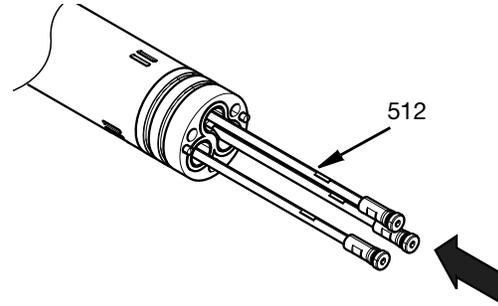

FIG. 32
12. Apply a thin coat of lubricant to the top 4 inches (100 mm) of each rod shutoff valves (512) and insert into the central body (101) until the top end of the rod is protruding out of the air cylinder (509). See FIG. 32.